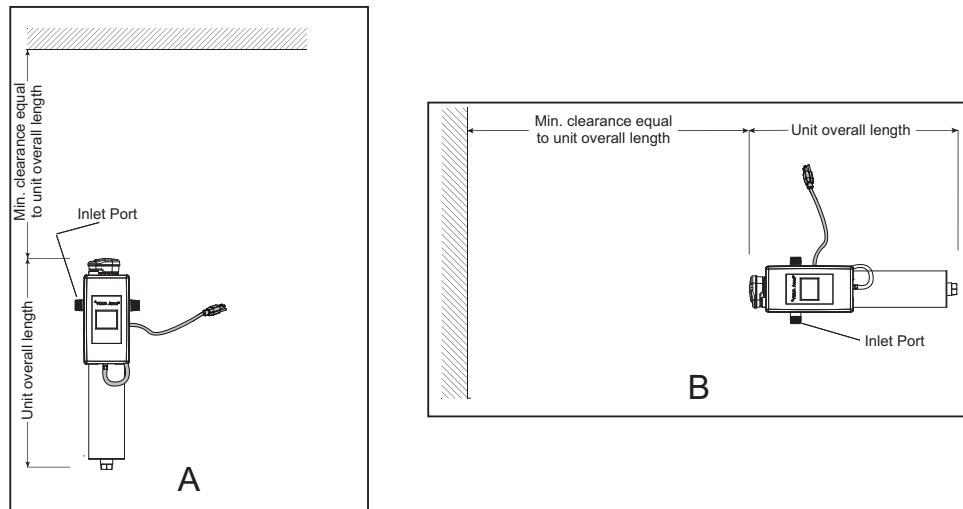

Figure 4 UV System Installation - Vertical and Horizontal
- Select a suitable location for the UV System and its related components. As it is recommended to install a GFCI, make sure that this is taken into consideration prior to any installation. The system can either be installed vertically as shown in Figure 4 A, or horizontally as shown in Figure 4 B. However, the vertical installation is the most preferred method. When selecting a mounting location, leave enough space to allow the removal of the UV Lamp Unit (typically leave a space equal to the size of the UV Chamber itself).